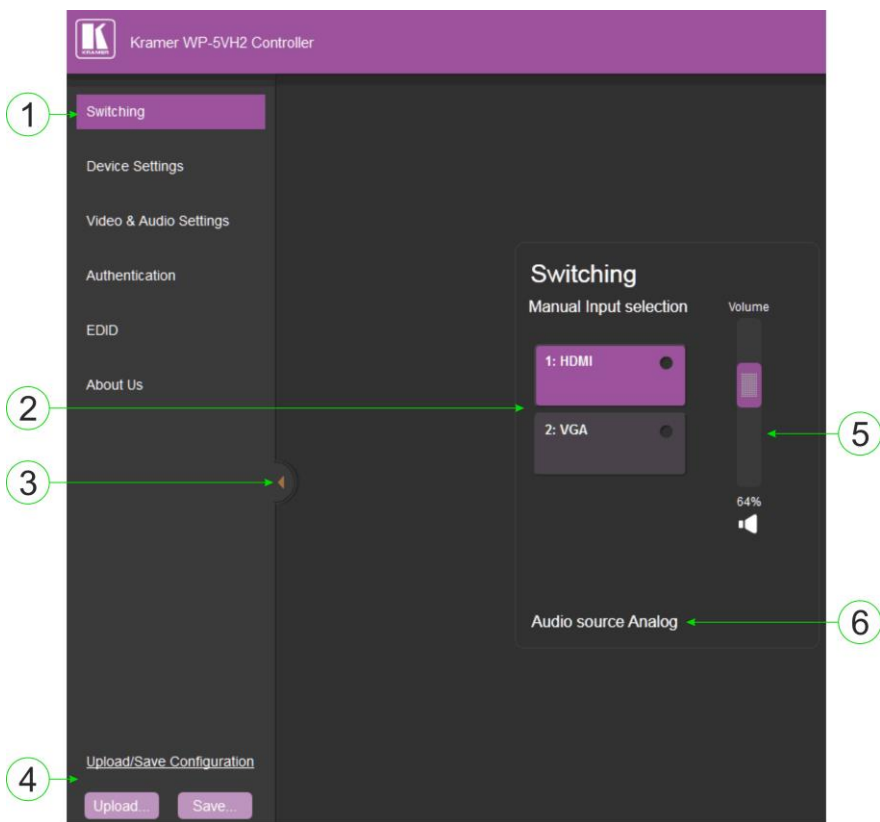

Figure 8: The Main Switching Page
The Switching page appears as shown in Figure 8.
The Upload/Save Configuration facility (see item 4 in Figure 8) lets you retrieve and save a configuration.